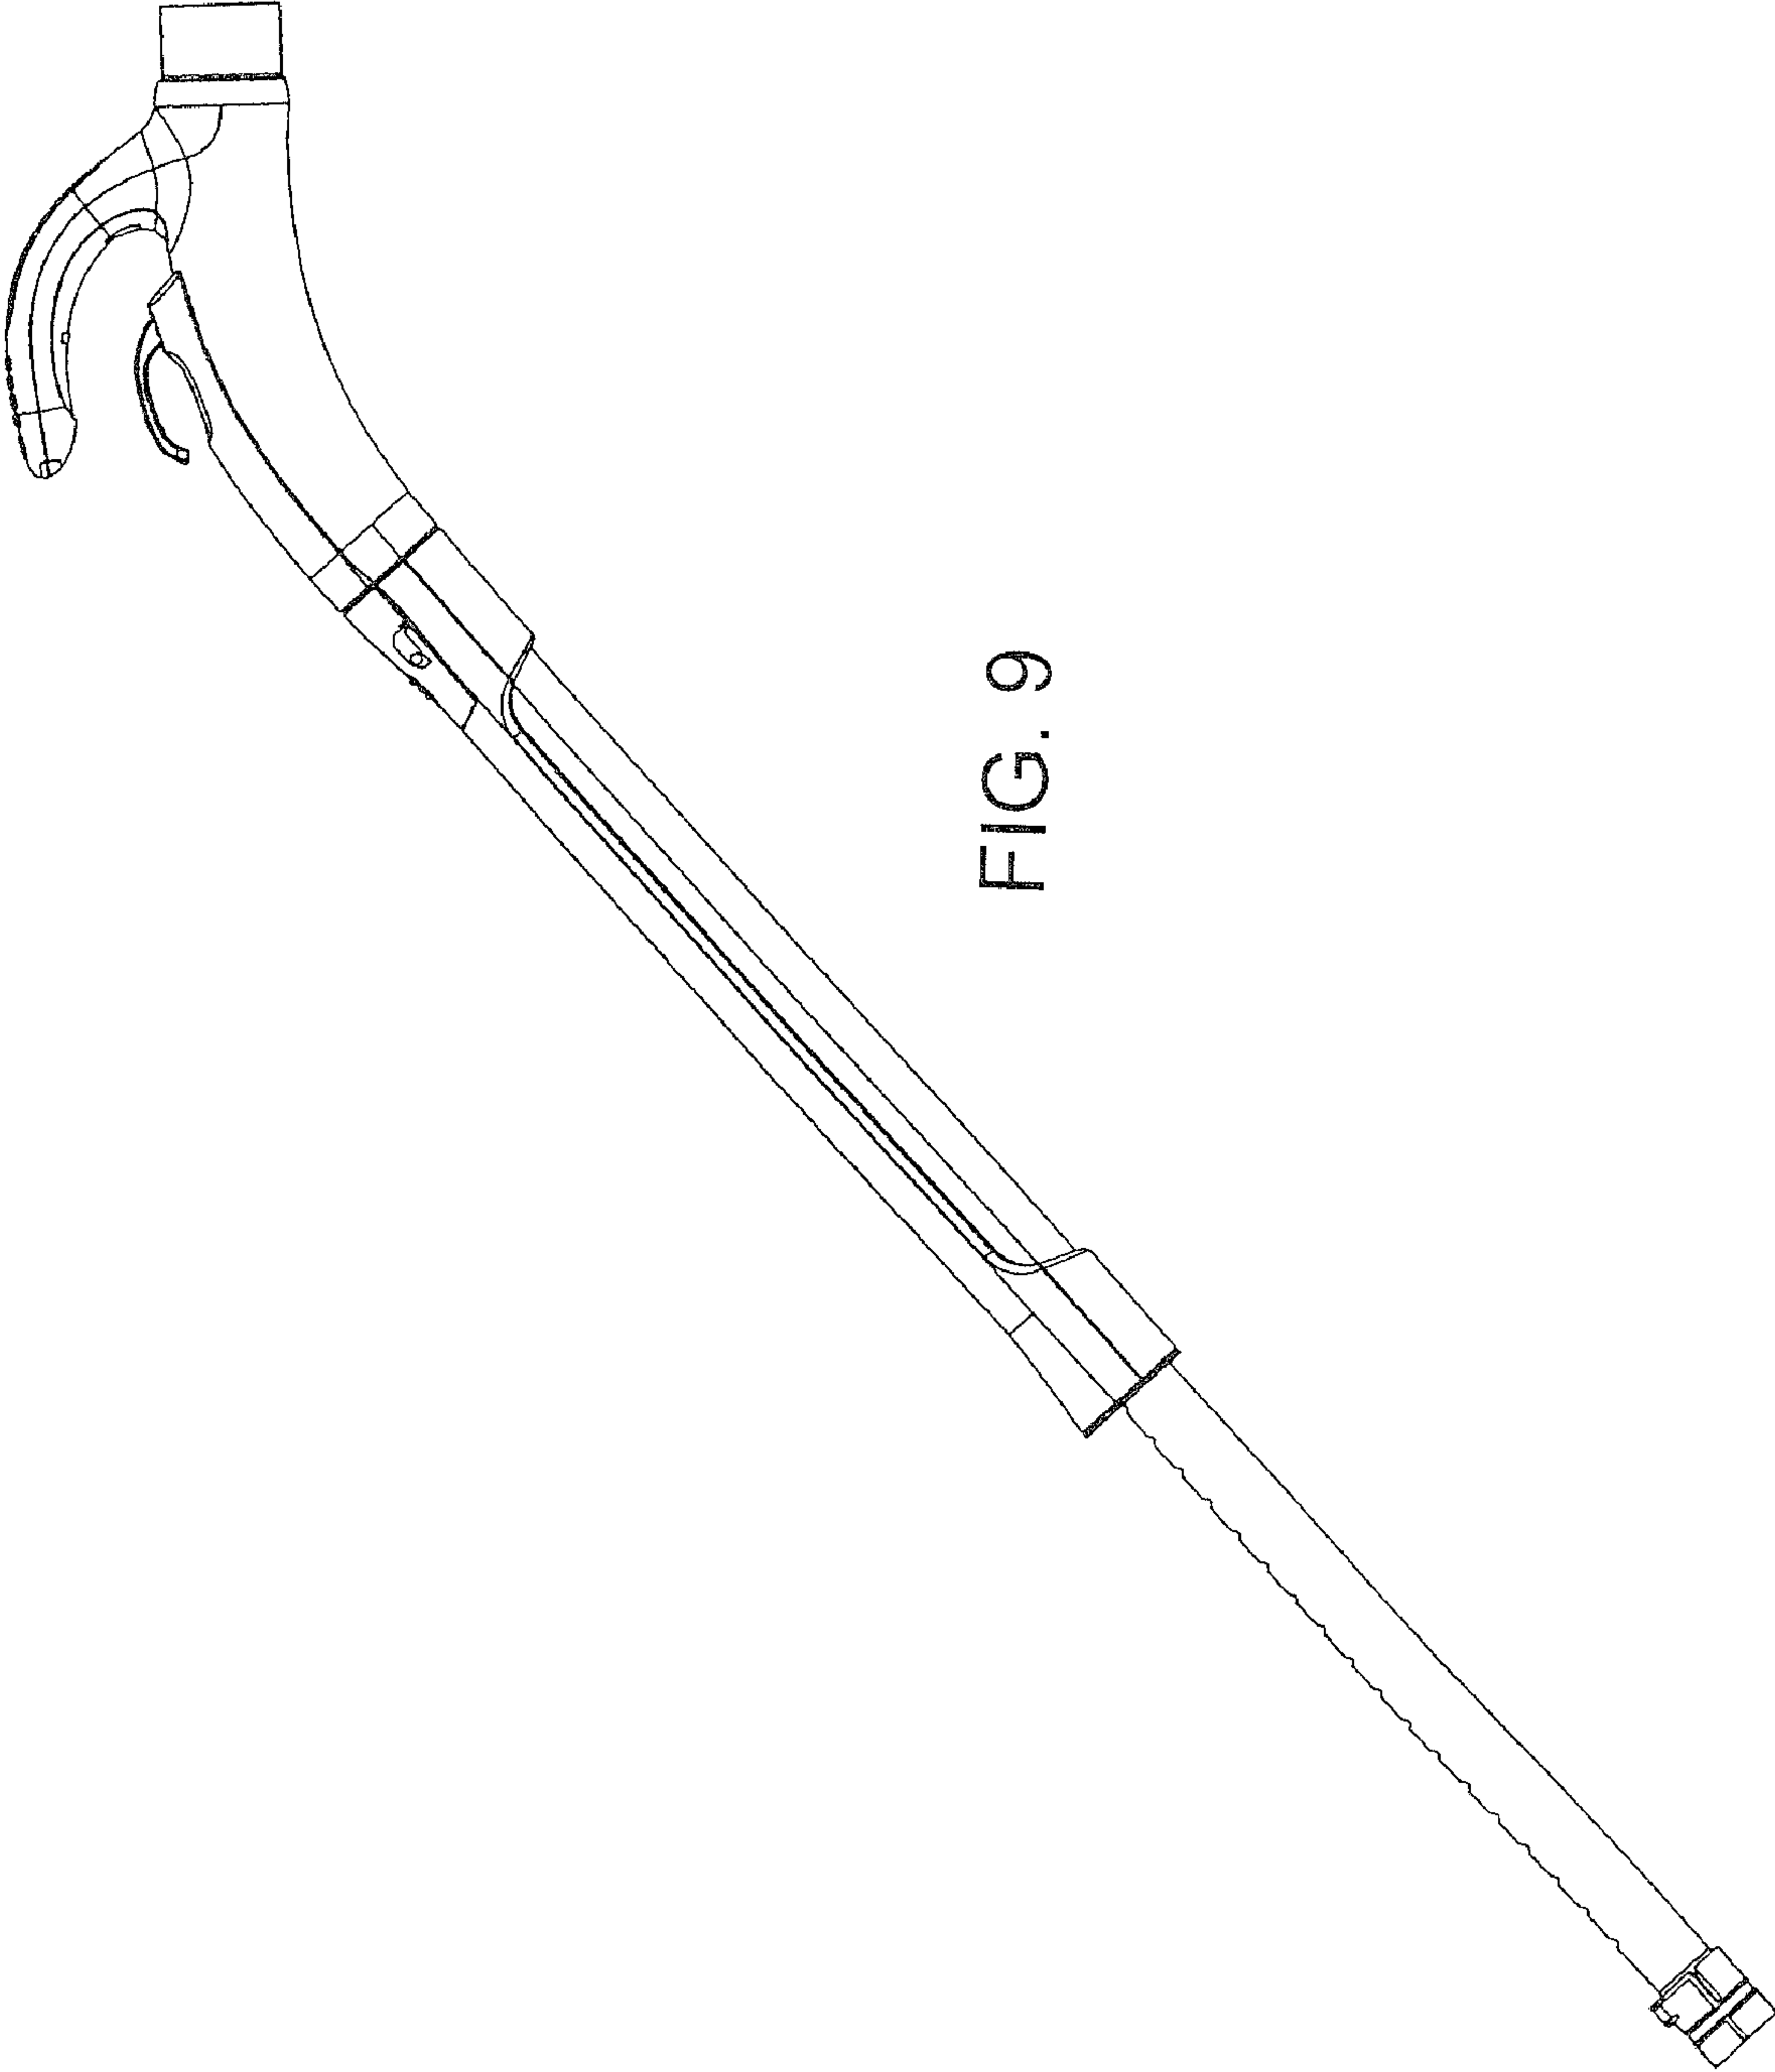

FIG. 9
- FIG. 9 is a right side view in an open position;